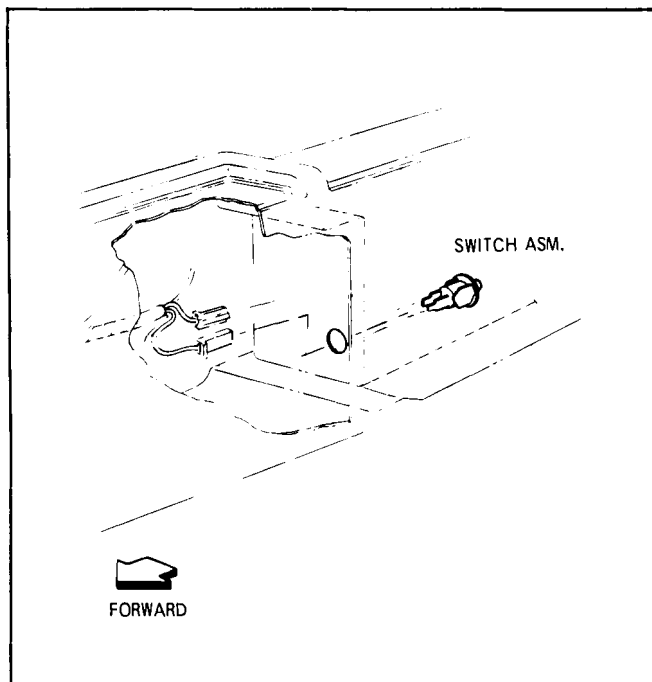

Fig. 15-30 G Series Deck Lid Release Switch (Console)
3. Remove switch (Fig. 15-30).